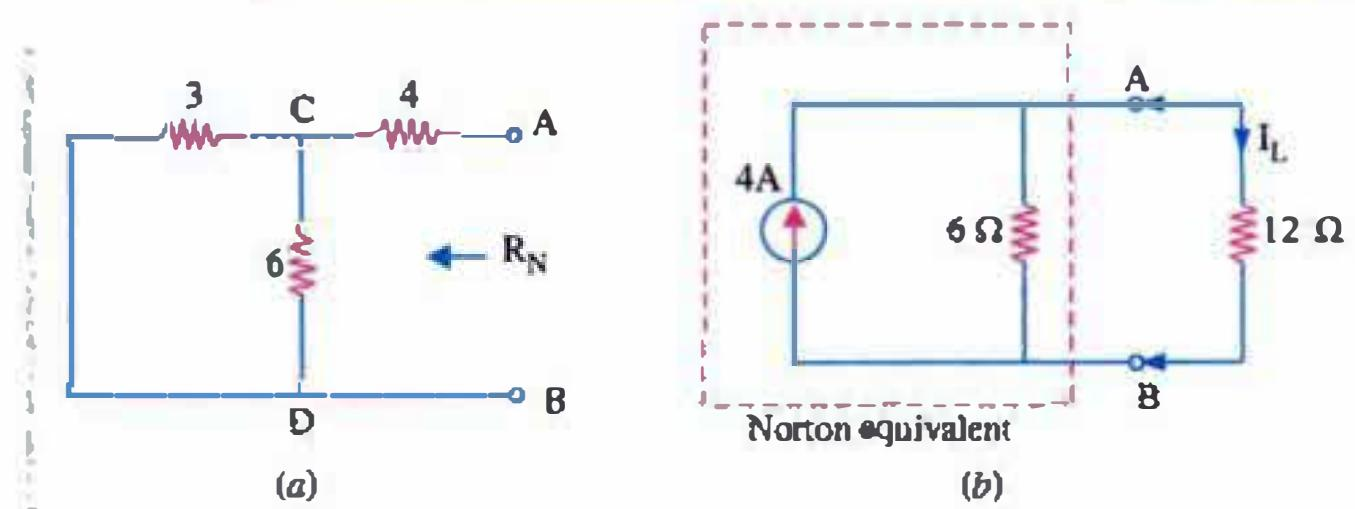

Fig. 4.19
**2. Second Step.** Remove the short circuit, thereby leaving terminals A and B open. Also remove the battery. Since its internal resistance is zero, it is replaced by a resistanceless piece of connecting wire thereby closing the circuit [Fig. 4.19 (a)]. The resistance  $R_N$  of the circuit as viewed from terminals A and B is
Hence, the Norton's equivalent of the given circuit is as shown in Fig. 4.19 (b). Load current  $I_L$  through  $12 \Omega$  resistor can be found by using the Proportional Current Formula (Art. 2.16).